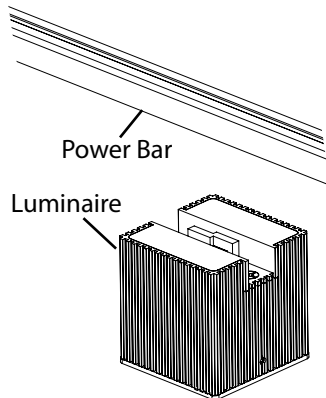
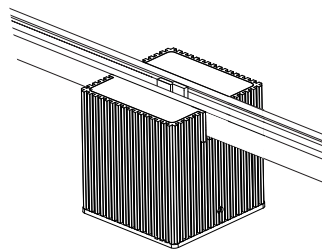

Fig. 13
Fig. 14
1. Align **Luminaire** with **Power Bar** (Fig. 13), press up firmly on the bottom of the Luminaire, while pressing down on the top of the Power Bar, until the Power Bar clicks into place (Fig. 14).